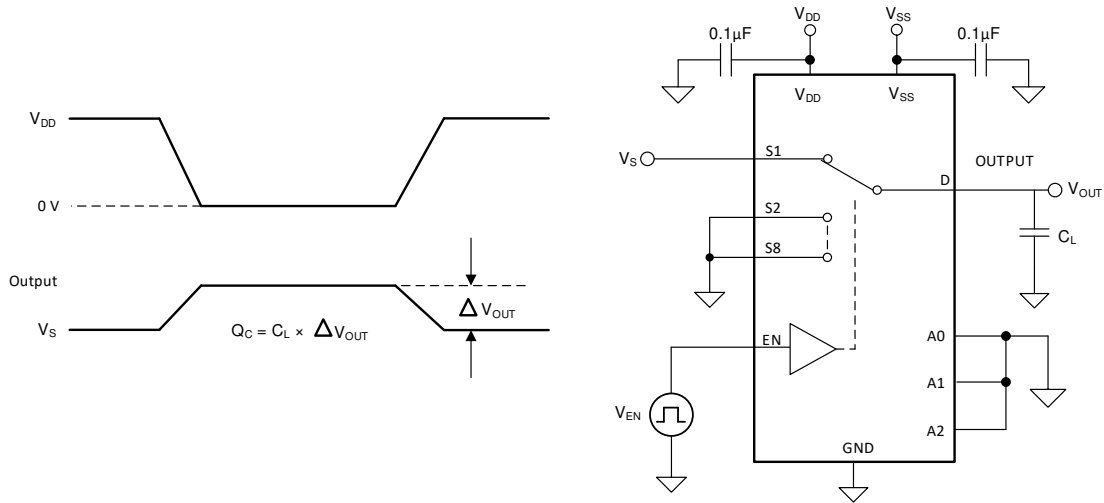

Figure 7-7. Charge-Injection Measurement Setup
The TMUX1108 has a transmission-gate topology. Any mismatch in capacitance between the NMOS and PMOS transistors results in a charge injected into the drain or source during the falling or rising edge of the gate signal. The amount of charge injected into the source or drain of the device is known as charge injection, and is denoted by the symbol Q_C . Figure 7-7 shows the setup used to measure charge injection from source (Sx) to drain (D).